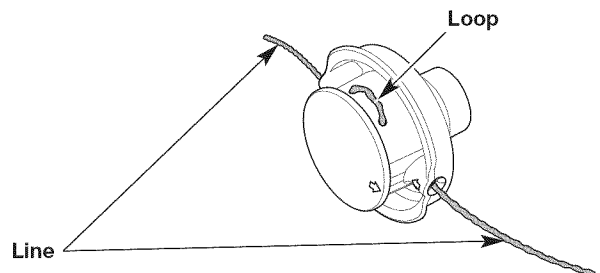

Fig. 20
4. Pull the ends of the line until the line is tight against the cutting head. Make sure the ends of the line are of equal length (Fig. 20). If one end is longer than the other, push the longer end back through the cutting head partway and pull the shorter end out. If necessary, repeat this process until both ends are of equal length.
5. Press the exposed loop of trimming line until it is tight against the cutting head (Fig. 20).